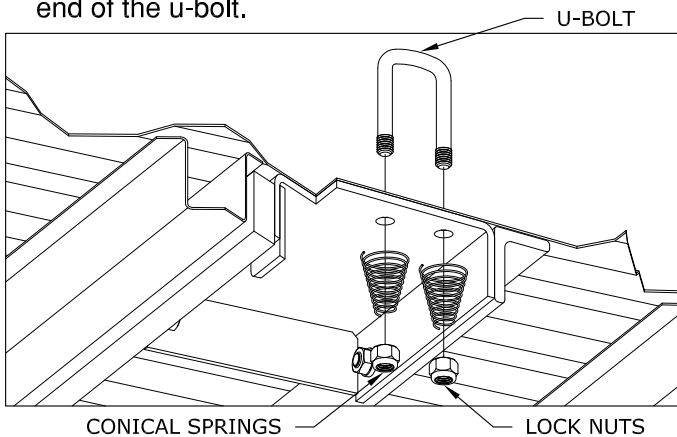

FIGURE F3: Cut away view from under the bed.
3. **Add springs.** Place a conical spring over each leg of the u-bolts and secure with a $\frac{1}{2}$ " lock nut, see figure F3. Tighten the lock nut until the nut is flush with the end of the u-bolt.